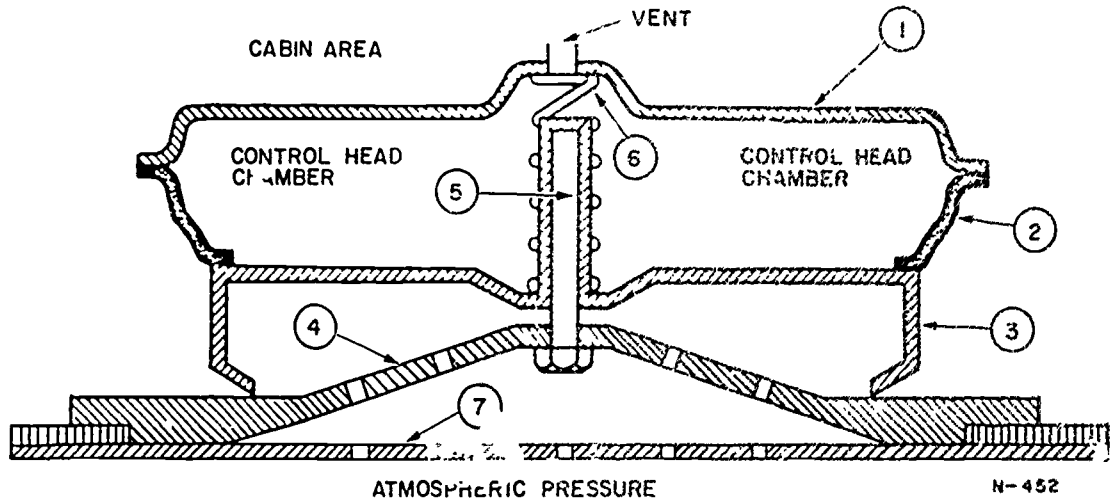

Figure 3.
The regulator assembly is installed INSIDE the cabin. The outflow valve covers an opening in the aircraft skin. When the outflow valve is open, cabin air can flow out to the atmosphere. Refer to figure 3 as we talk about the outflow valve.
In figure 3 the round outflow valve has been cut in half from top to bottom and you are looking into the open side of one half. Number one (1) is part of the valve housing. It bolts to the regulator (not shown) and does not move. Number two (2) is a rubberized diaphragm that allows the valve to move. Number three (3) is the valve (shown closed) and it moves up and down. Number four (4) is the lower part of the valve housing that bolts to the inside of the aircraft skin. Number five (5) is a guide bolt on which the valve slides up and down. Number six (6) is a spring which pushes down on the valve with about .3 pounds of force to help keep the valve on seat. Number seven (7) is the aircraft skin that has slits cut so that cabin pressure may vent to the atmosphere.